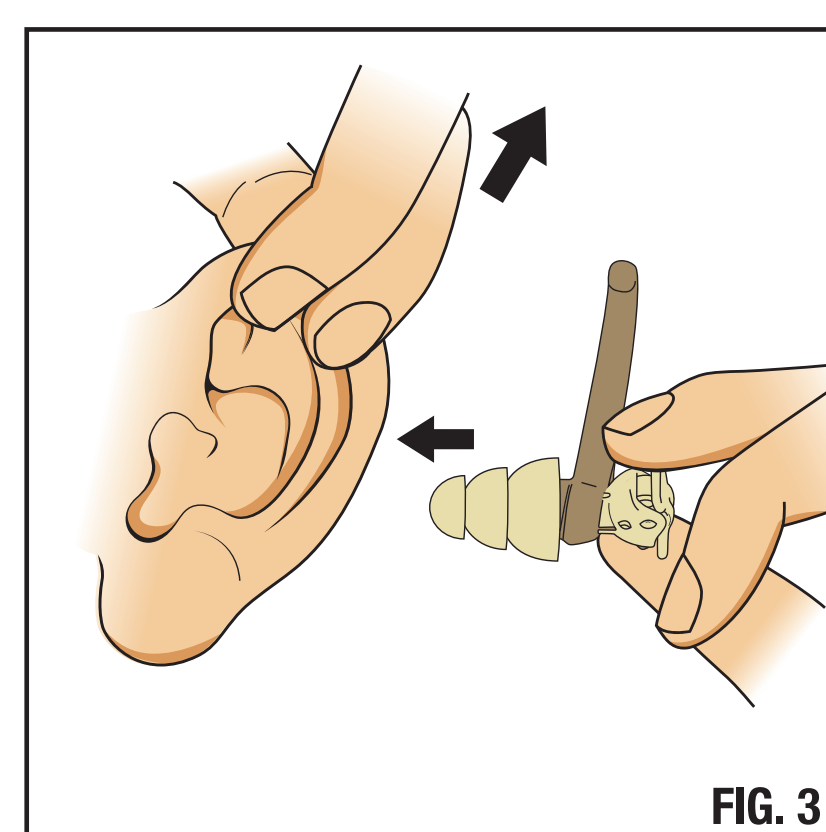

FIG. 3
**Step 2.** Insert the plug into the ear canal while pulling the ear outward and upward with the opposite hand. Ensure the rocker switch is in a vertical position. (*see Fig. 3*)